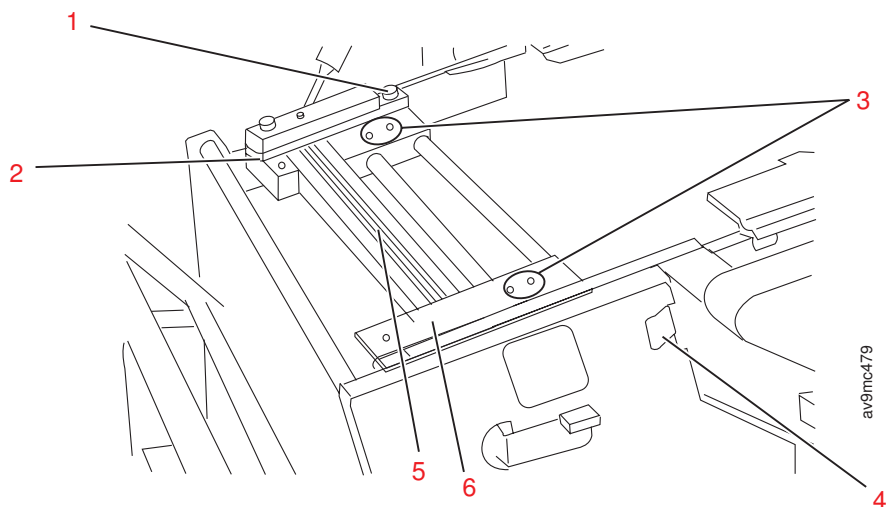

Figure 57. Splicing table
7. Loosen the thumbscrew on the rear paper-edge guide with the toner mark/side verify sensor **(1)** (see Figure 57 on page 152).
8. Move the rear paper-edge guide (2) to the proper paper width so that the tractor holes are aligned with the guide pins (3) on the front and rear guides. Press down on the metal plate (6) (see Figure 57).
9. Lift the paper out of the tractors and push it up so that the trailing edge aligns with the center of the splicing table tape slot. There should be some slack in the forms (3) .